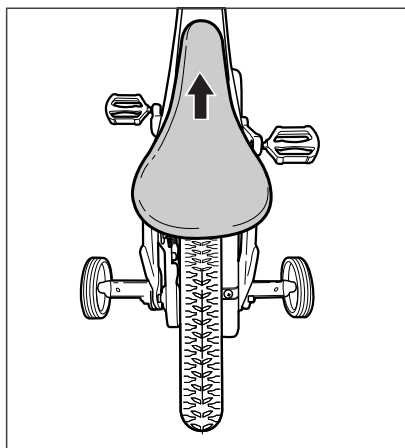

Figure 12
- Make sure that the minimum insertion mark is completely covered and that the seat is pointing forward in alignment with the bicycle (Figures 12 & 13).